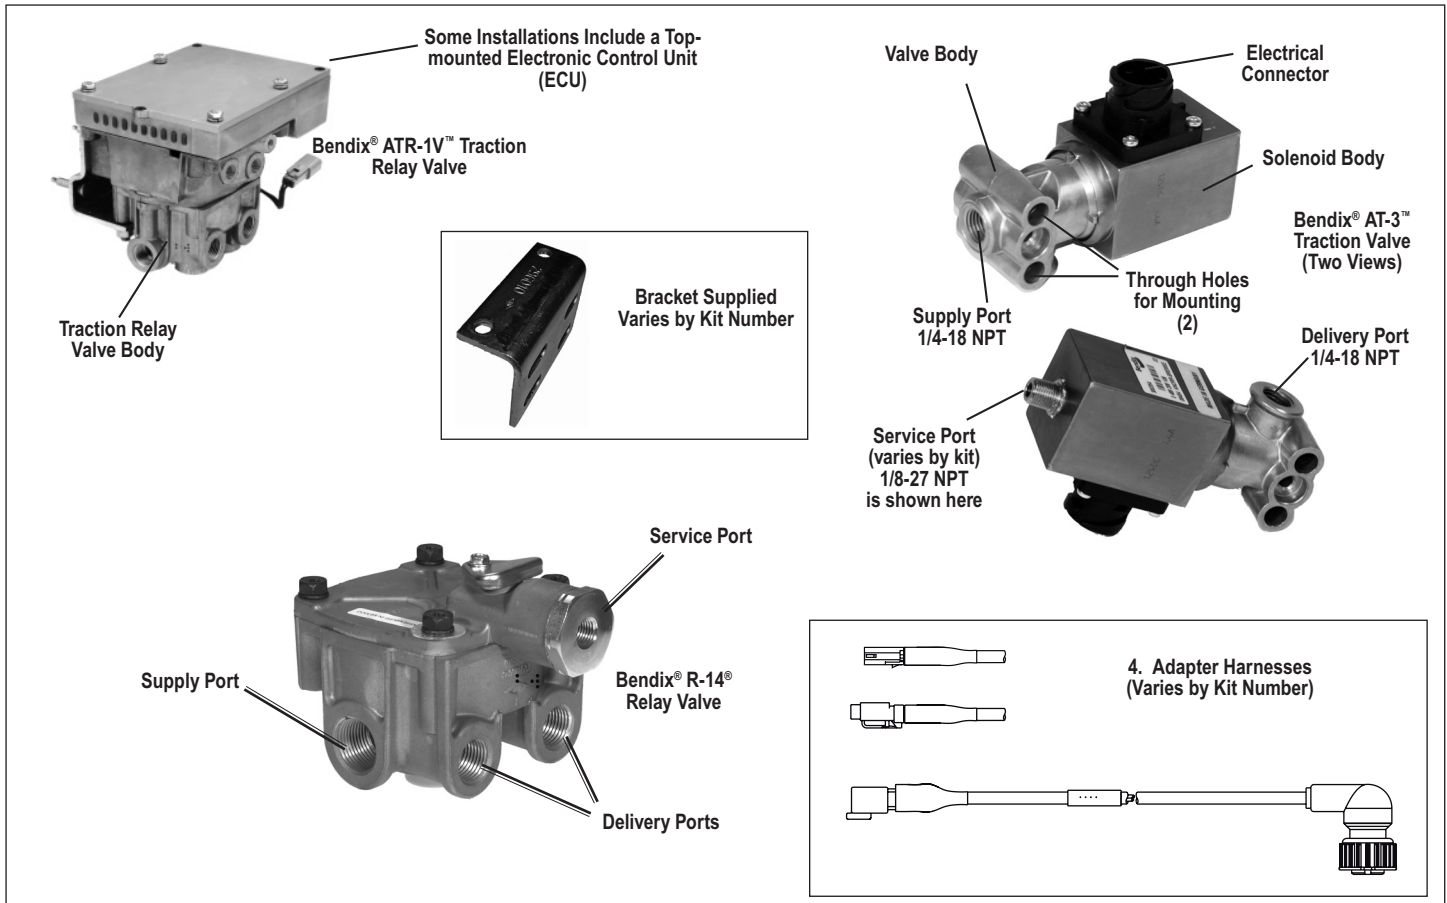

FIGURE 1 - BENDIX® ATR-1V™ TRACTION RELAY VALVE REPLACEMENT KIT
5. Remove the mounting hardware bolts and then remove the Electronic Control Unit (ECU) from the valve, if so equipped. (See Figure 1).